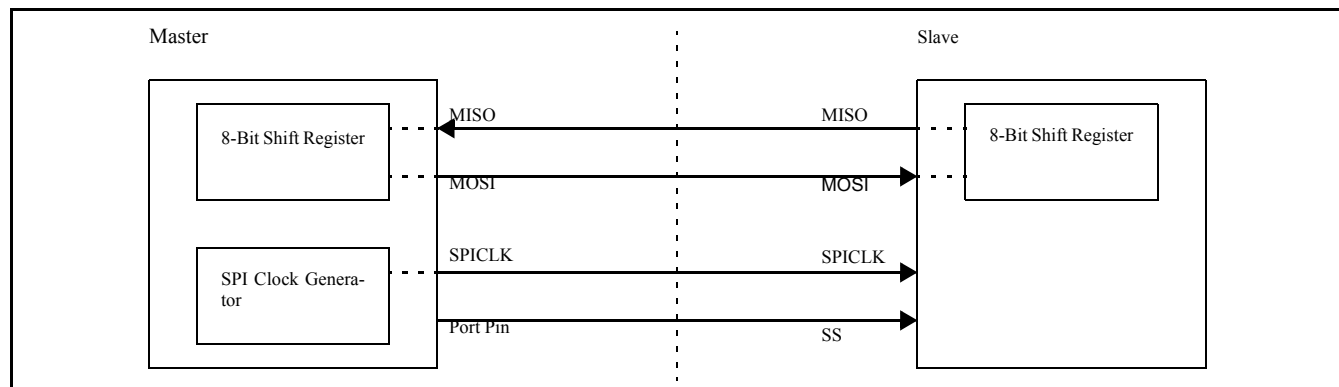
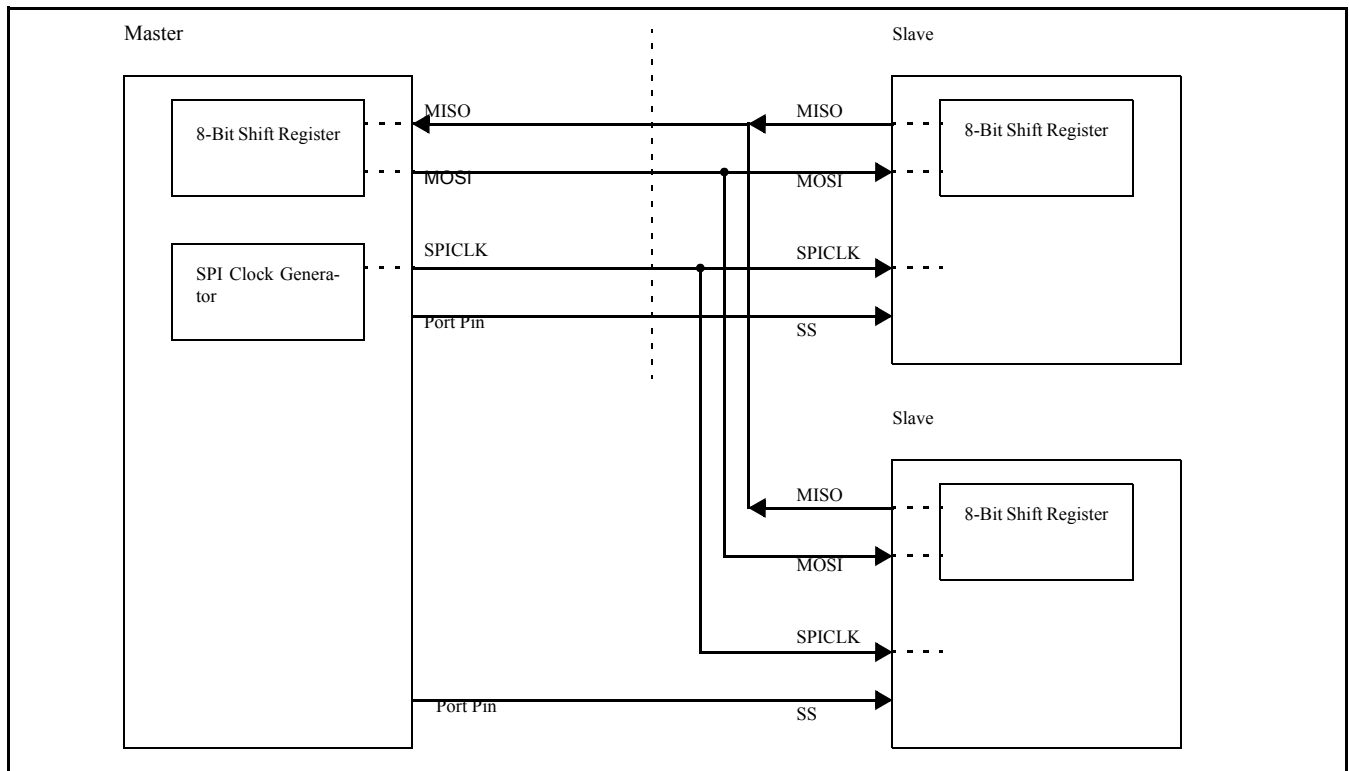

Figure 11-5: SPI single master single slave configuration
Figure 11-7: SPI single master multiple slaves configuration
Typical connections are shown in Figures 11-5 - 11-7.
- The **89LPC913** does not have the slave select pin, \overline{SS} . The SPI interface is set to Master mode and an I/O pin may be used to implement the SS function. Typical connections are shown in Figure 11-5 and Figure 11-7.
In Figure 11-5, SSIG (SPCTL.7) for the slave is '0', and \overline{SS} is used to select the slave. The SPI master can use any port pin (including P2.4/ \overline{SS}) to drive the SS pin.
In Figure 11-7, SSIG (SPCTL.7) bits for the slaves are '0', and the slaves are selected by the corresponding \overline{SS} signals. The SPI master can use any port pin (including P2.4/ \overline{SS}) to drive the \overline{SS} pins.